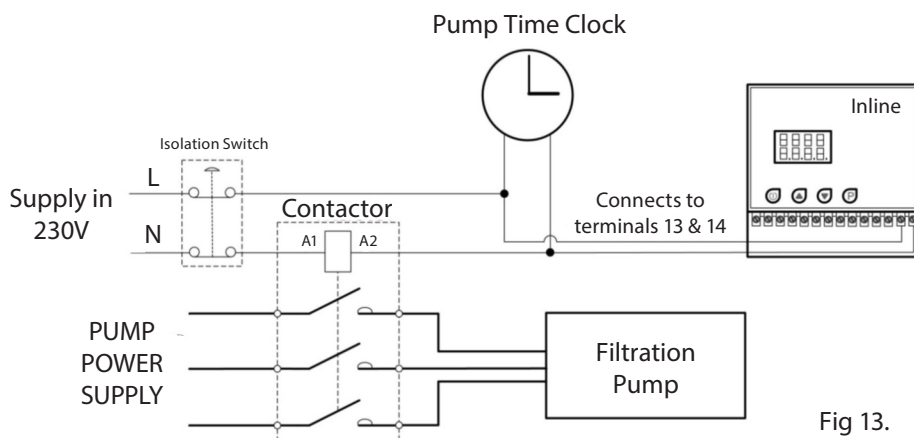

Fig 13.
**NOTE:** Priority Heating requires electrical connection to the filtration pump contactor as shown fig. 13.